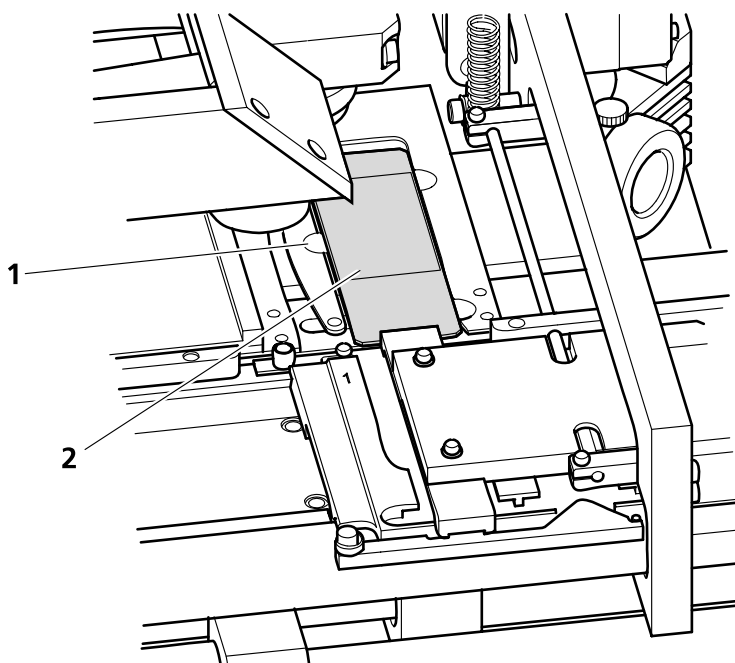

Fig. 6-4 Removing a slide
- Position the slide (Fig. 6-4/2).
- Remove the slide carefully. The clamp (Fig. 6-4/1) can be pushed slightly to the left to facilitate slide removal.